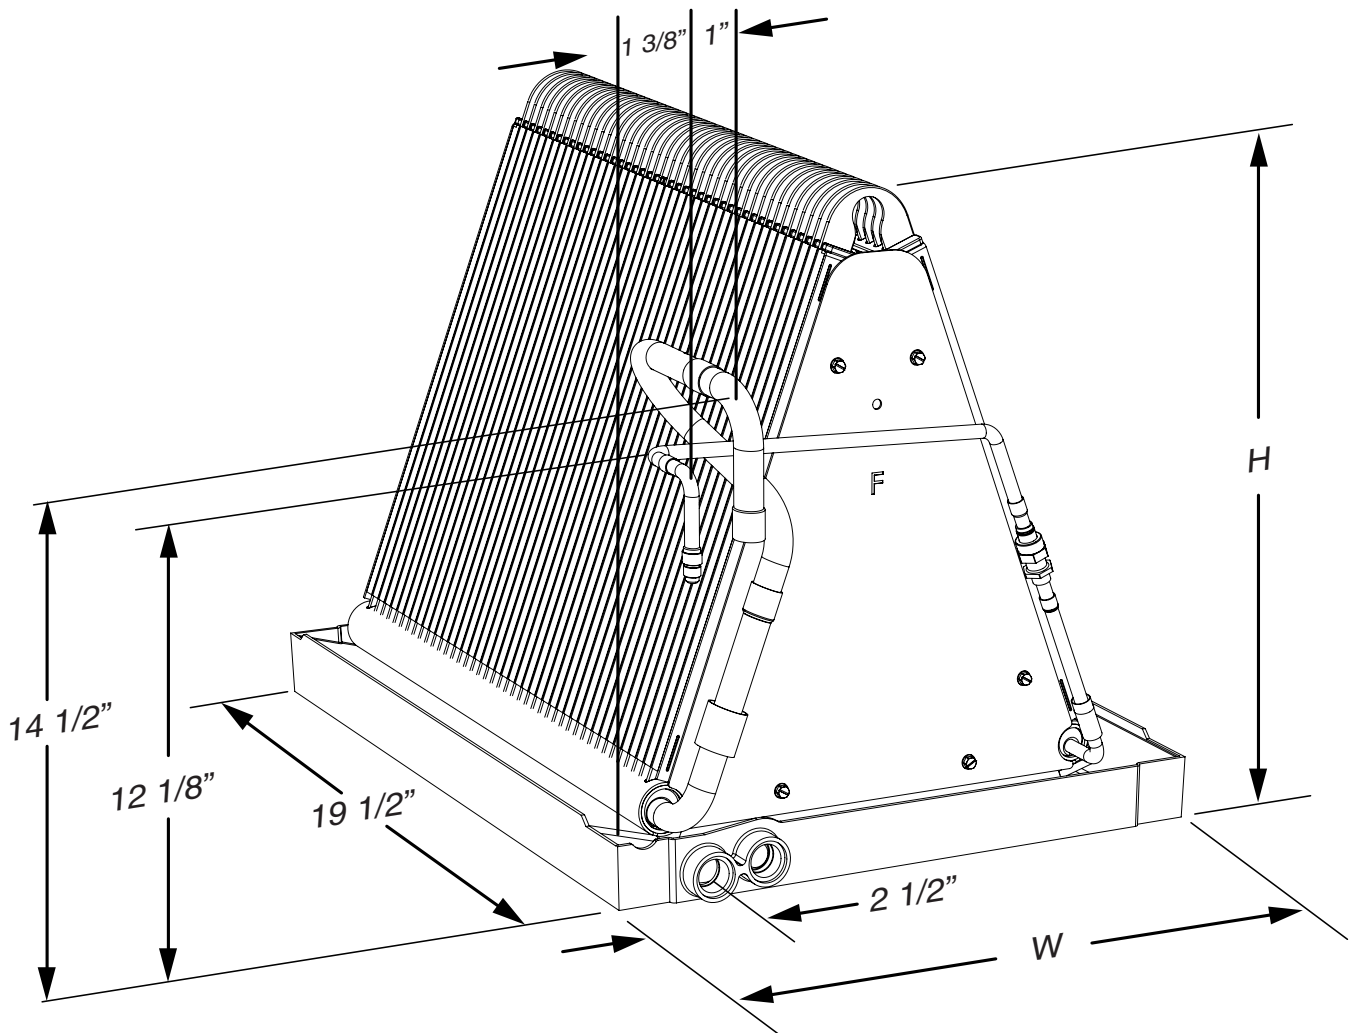

Figure 5. C8DA Coil Dimensions
2. Install the coil case on the furnace air discharge opening and level it as needed to ensure proper condensate drainage. If needed, make a plate to adapt the coil to the air discharge opening. See Figure 5 (page 6) for coil dimensions.